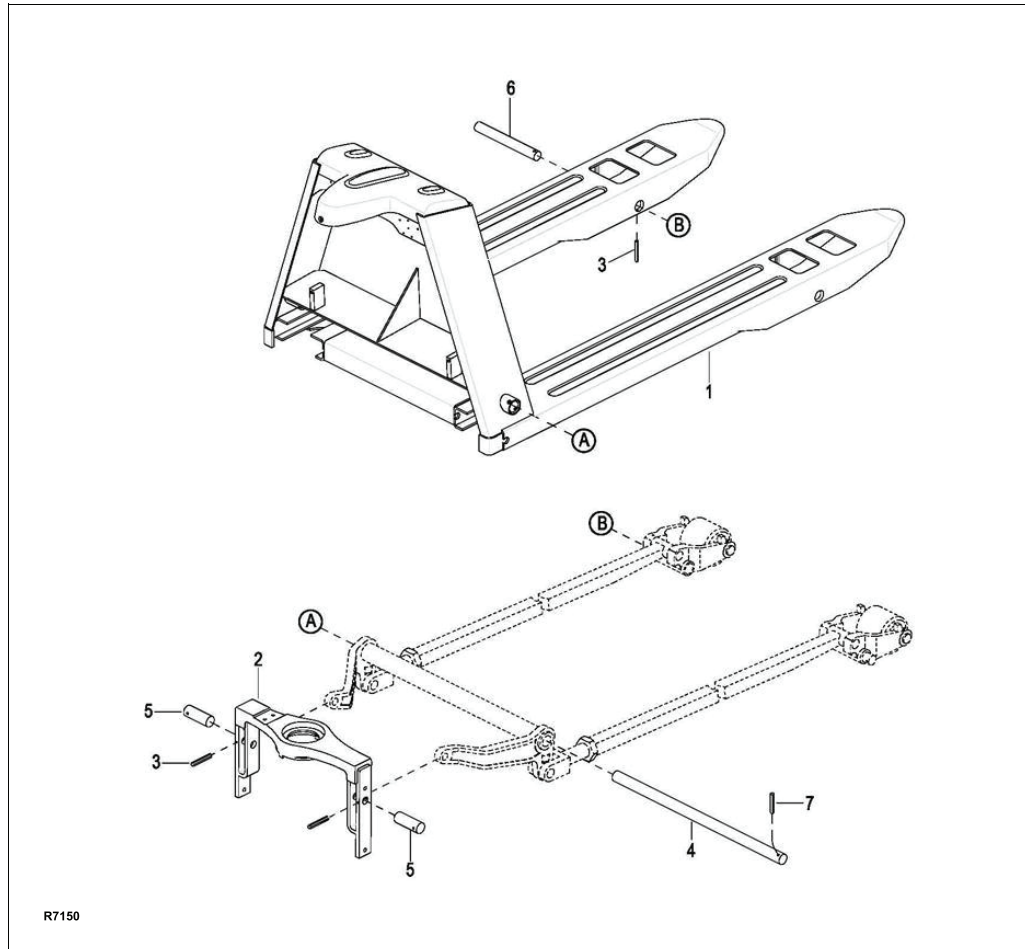
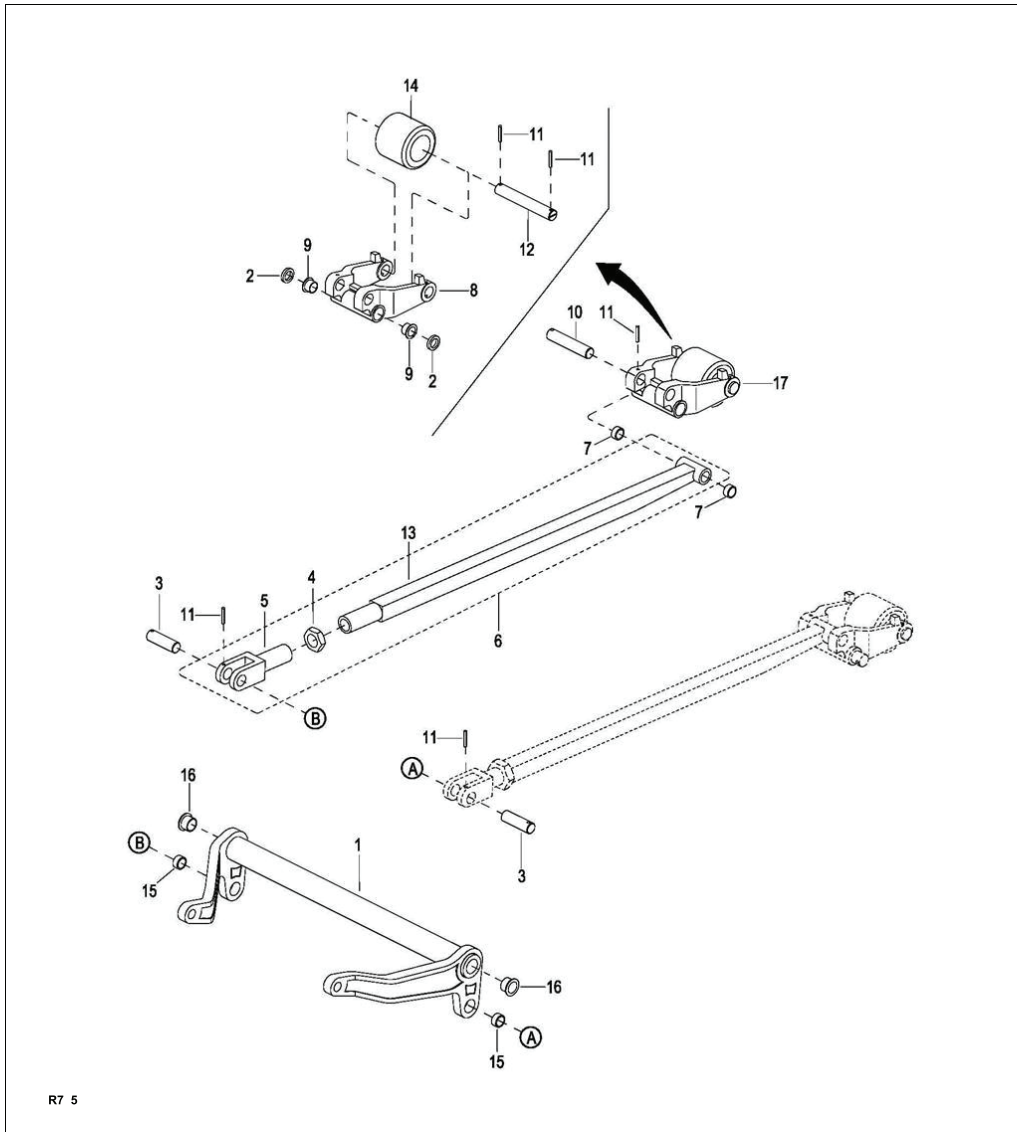

Figure 8-1 Frame (Single Wheel)
Figure 8-2 Lift Linkage Assembly (Single Wheel)
1. Lift complete truck to height sufficient to permit access to lift linkage under forks. Provide blocking under frame (1, Figure 8-1), transmission and at tips of the forks.
3. Remove pins (3, Figure 8-1) and remove shafts (5).
4. Remove pins (3) from each side of frame (1). Support link assembly and remove shaft (4).
5. Remove pins (3) and remove shafts (6) and washers (2, Figure 8-2).
Remove pins (11, Figure 8-2), shafts (12) and load wheels (14) from brackets (8).
1. Position link assembly under frame (1, Figure 8-1).
2. Raise link assembly into position and install shaft (4) through frame (1). Secure shaft (4) with pins (3).
3. Position wheel brackets (8, Figure 8-2) in frame (1, Figure 8-1) and install shafts (6). Secure shafts (6) with pins (3).
4. Position link assembly and install shafts (5). Secure shafts (3) with pins (2),